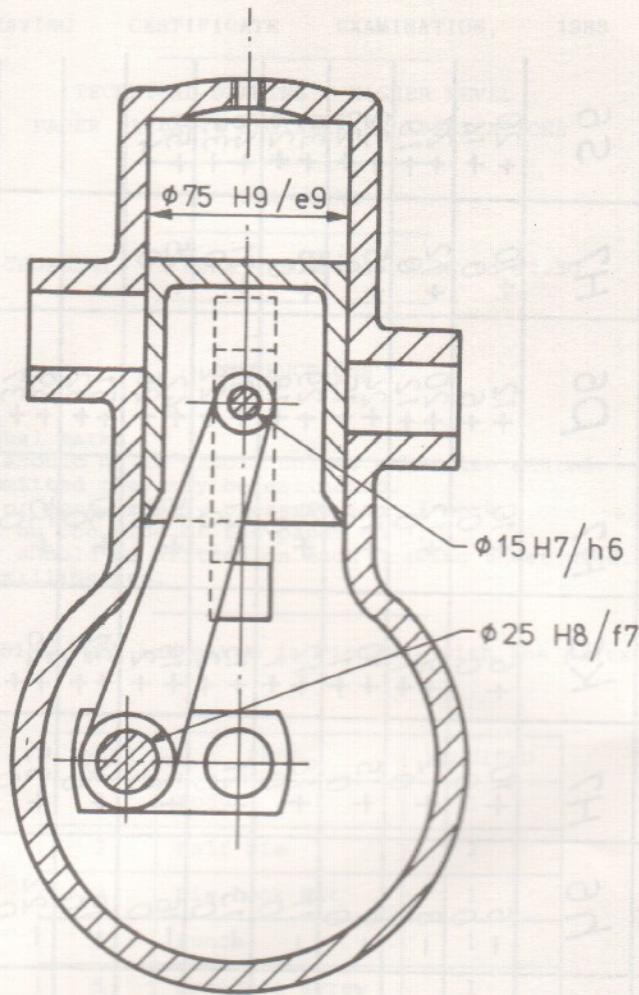

FIG. 3. FÍOR 3.
3. (a) Fig. 3 shows a schematic layout of a two stroke engine. Sketch freehand the layout drawing without the dimensions and identify and label on the sketch the following parts:- Piston; Gudgeon Pin; Connecting Rod; Crank; Sump (Crankcase); Inlet, Exhaust and Transfer Ports.
- (b) Make outline freehand sketches of the individual parts indicated by the dimensions and engineering fits shown in Fig. 3. Using the table of limits and fits supplied tolerance dimension the parts to suit the given fits.